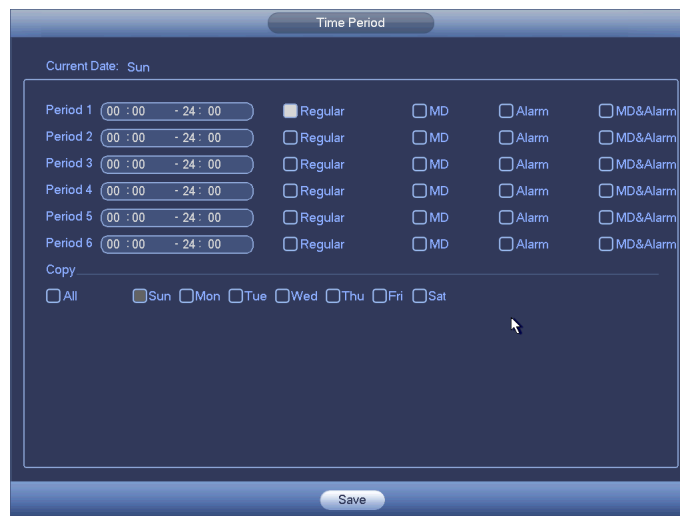

Figure 4-93
- Period setup: Click button  after one date or a holiday, you can see an interface shown as in Figure 4-93. There are four record types: regular, motion detection (MD), Alarm, MD & alarm.